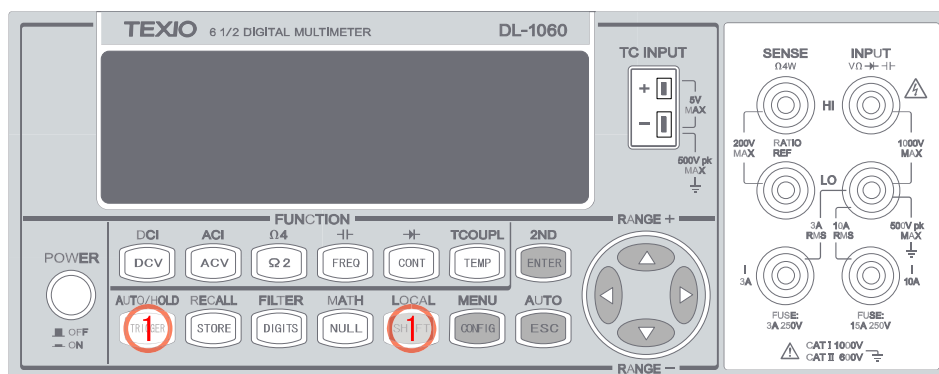

Figure 3-18
1. Press SHIFT and TRIGGER on the front panel to enable auto trigger mode as shown in **Figure 3-18**.